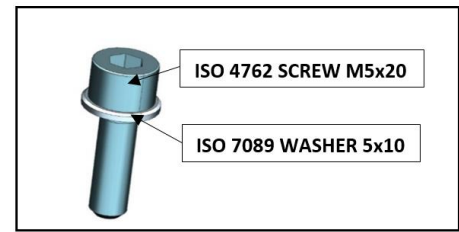

Figure 3 - screw with washer
- The seal is supplied assembled. Please ensure that the gasket is correctly positioned when installing the gasket. The gasket must be installed as shown in the picture. (Figure 3 + 4)